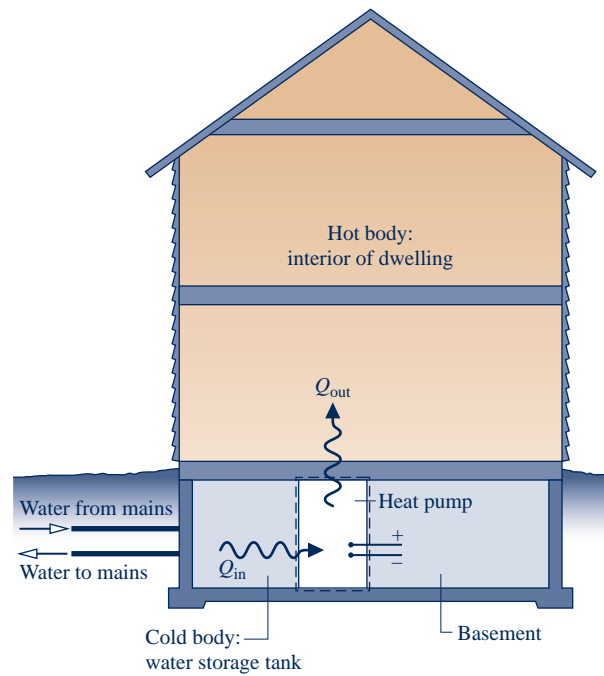

Fig. P2.11D
2.11D An inventor proposes *borrowing* water from municipal water mains and storing it *temporarily* in a tank on the premises of a dwelling equipped with a heat pump. As shown in Fig. P2.11D, the stored water serves as the cold body for the heat pump and the dwelling itself serves as the hot body. To maintain the cold body temperature within a proper operating range, water is drawn from the mains periodically and an equal amount of water is returned to the mains. As